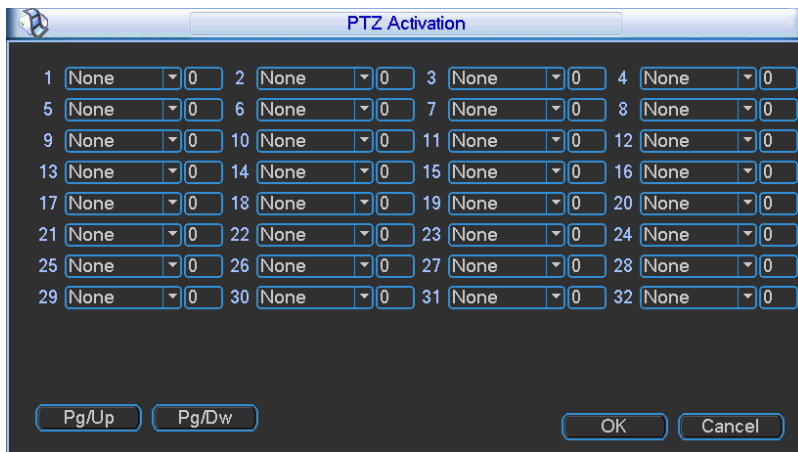

Figure 3-58
- PTZ activation: Here you can set PTZ movement when alarm occurs. Such as go to preset when there is an alarm. Click “select” button, you can see an interface is shown as in _Figure 3-58. Click PgUp/PgDn to set more channels.